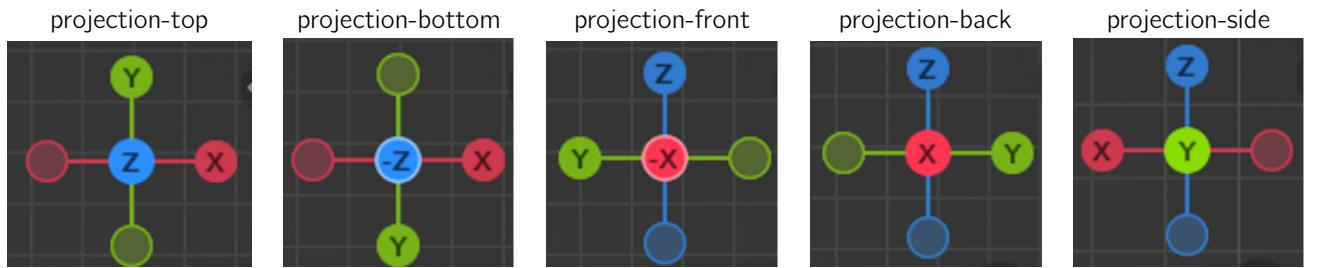

Figure 1.21: File names with corresponding views.
1. To accurately reproduce the shape of the model, insert to Blender projections images delivered as separate files. Set the appropriate view (orthographic projection on the selected plane) and then drag the file with the image to the Blender window. Use Gizmo located in the upper right corner of the 3D Viewport window to switch between views. The projection images correspond to the views defined in Fig.1.21.